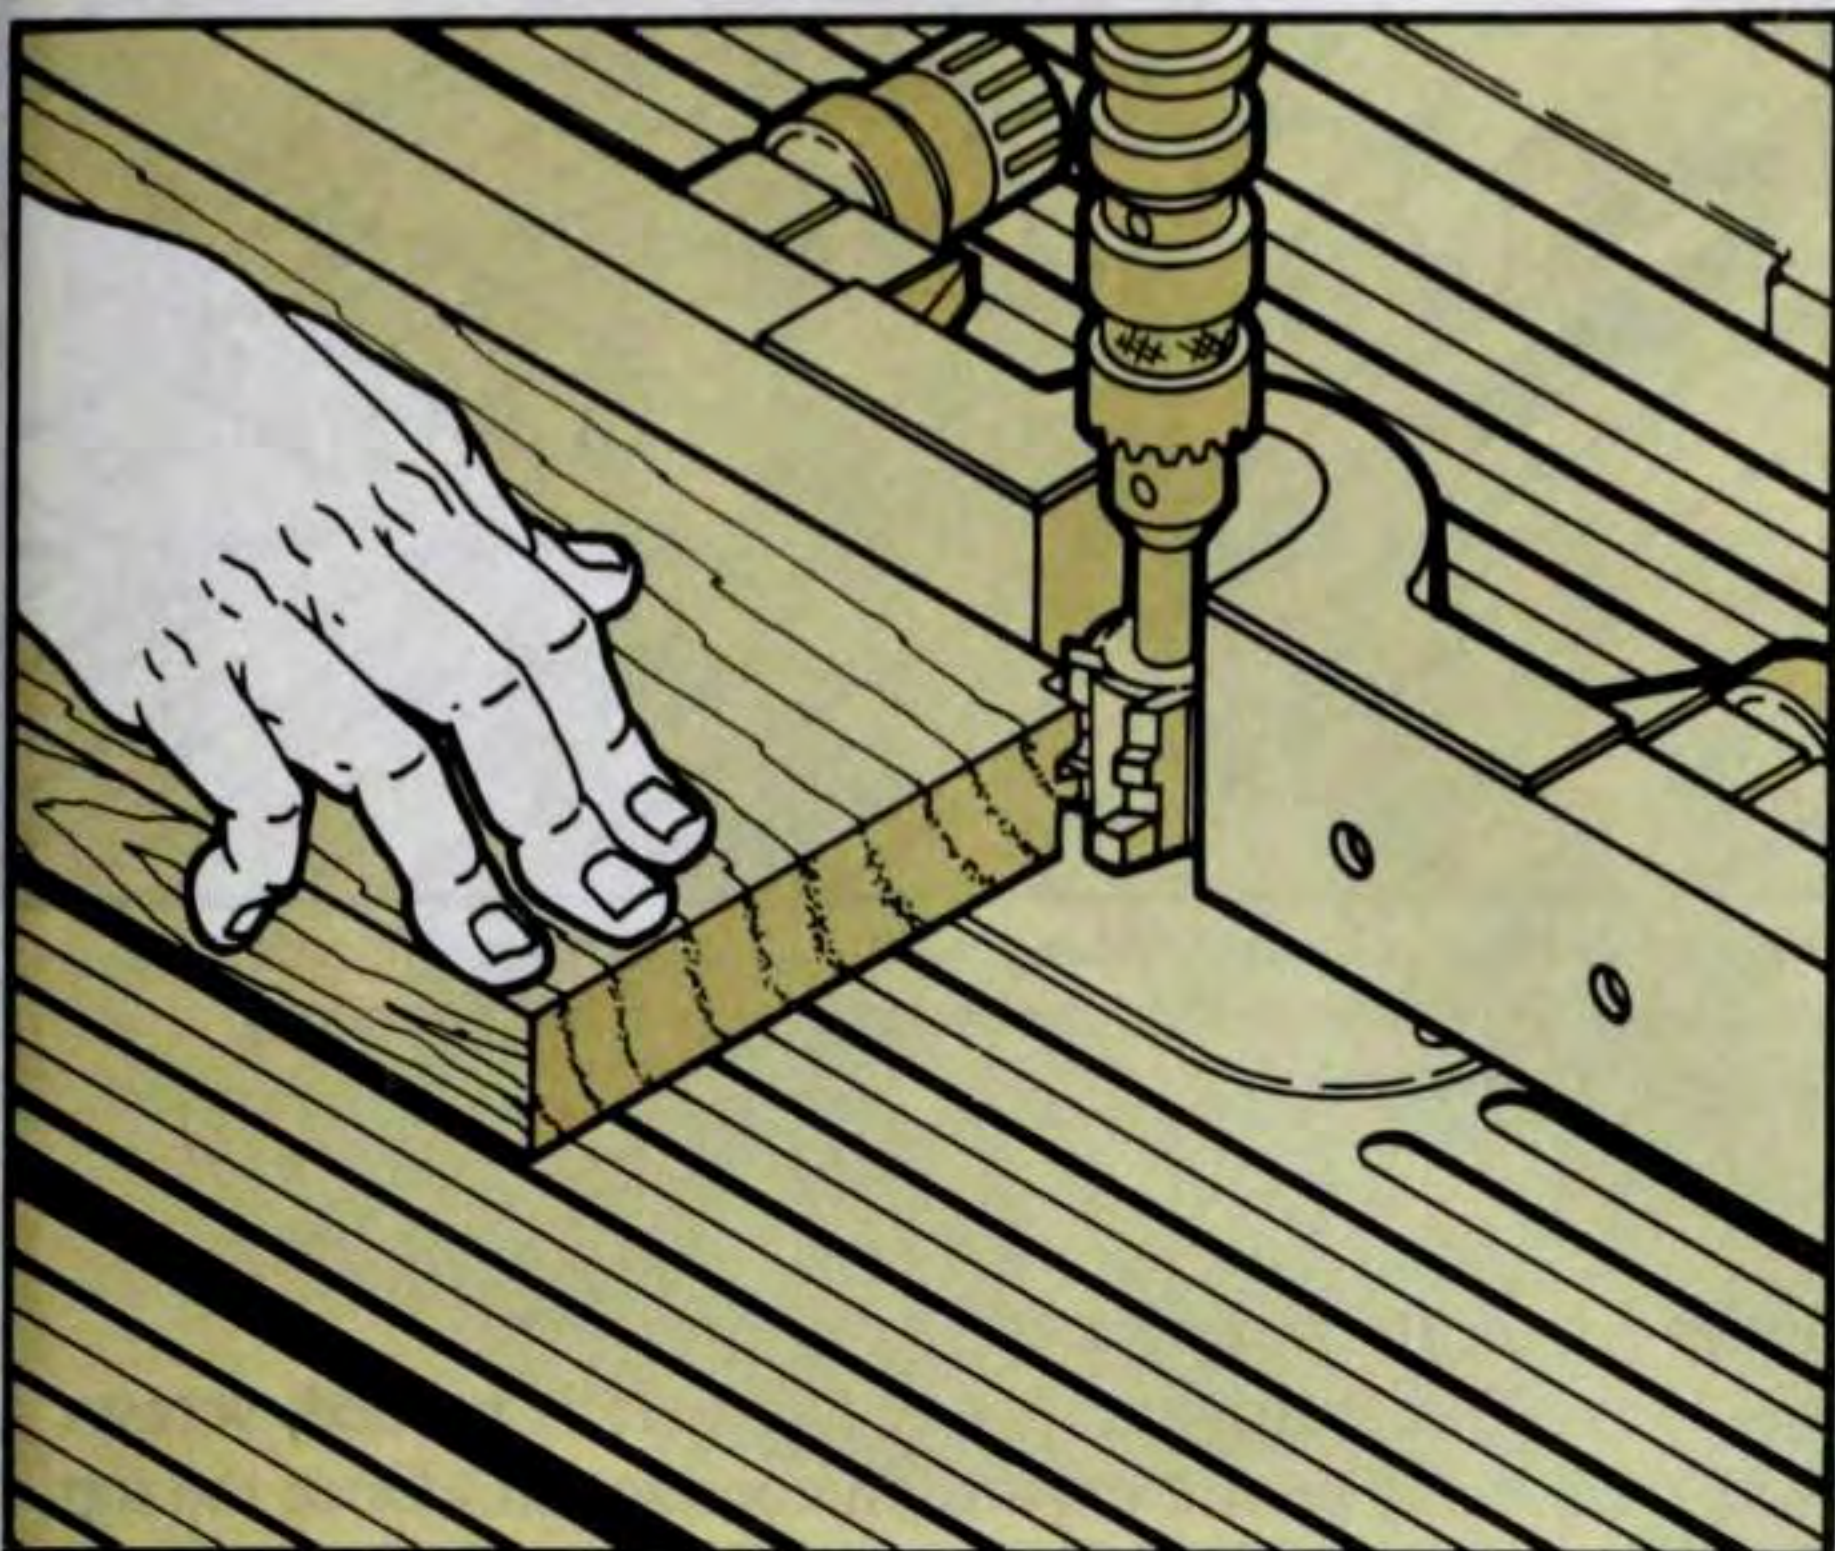

Figure 1. Cut a glue joint into the table top (M) with a very sharp glue-joint shaper bit. For clarity, guards not shown.
Since you will likely use several pieces of stock glued together for the table top (M), we suggest cutting the edges of that stock with a very sharp glue joint shaper bit (Fig. 1). This gives you a self-aligning, unitized spine/groove combination, increases the gluing surface and provides a stronger bond. The rough top to be squared later should measure 19 in. by 36 in., thus providing ample stock to cut the drop-leaf joint. Hint: keeping the worktable at waist level makes controlling the workpiece easier.